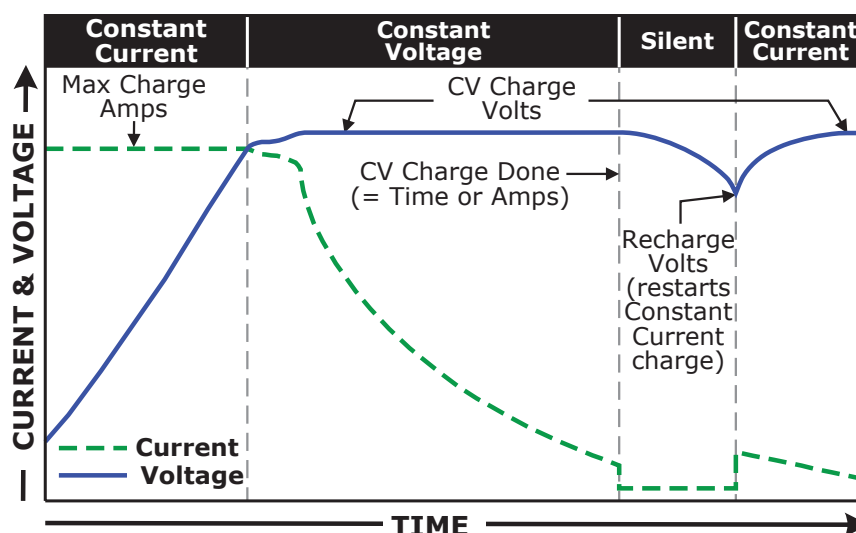

Figure 3-10, CV Charge Done Time/Amps Stages (INV/CHG)
■ **Set CV Charge Done** – These selections determine when the second stage of charging (Constant Voltage) is finished. If using the *CV Chg Done Time* or *CV Chg Done Amps* selections, once the Constant Voltage charge cycle is finished, it transitions to a Silent charge stage. After entering the Silent charge mode, the charger automatically stops charging, but is still actively monitoring the battery voltage. The charger will remain “Silent” until the battery voltage drops to the *Set Recharge Volts* setting, at which time the charger will start another Constant Current/Constant Voltage charge cycle (see Figure 3-10).